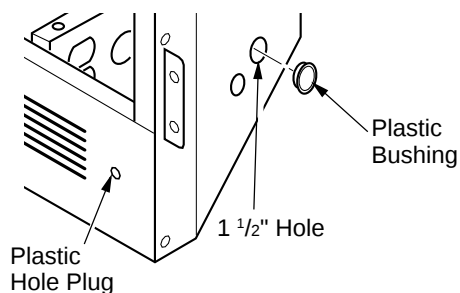

Figure 10 - Installing Plastic Bushing for Power Cord
7. Locate the plastic hole plug installed in the 3/8" diameter opening in the lower right side of the firebox front panel (see Figure 10). Remove the plastic plug and discard.
- a. If your firebox is installed as a freestanding unit with an accessory mantel, determine whether the power cord will exit the left side or the right side of the firebox. Install 1 plastic bushing provided into the 1 1/2" hole in the floor support on the exit side. Install the second plastic bushing provided into the 1 1/2" hole in the outer casing through which the power cord will exit (see Figures 10 and 12). Route power cord through both plastic bushings and plug the power cord into a wall receptacle near the firebox.